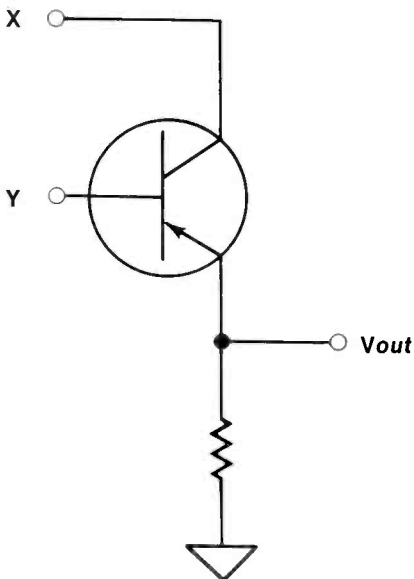
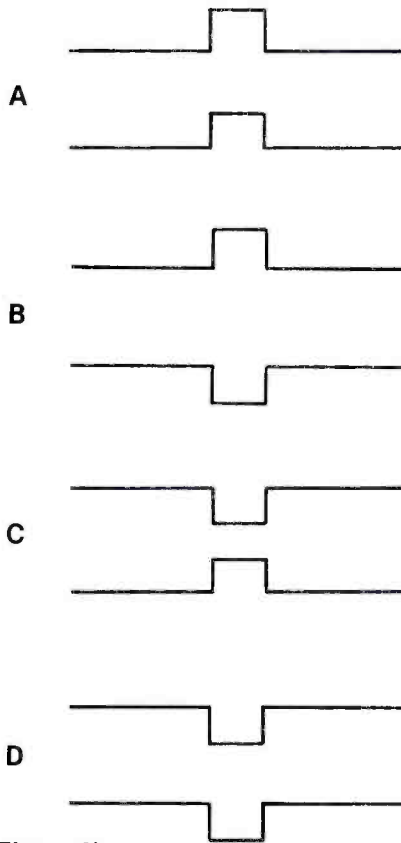

Figure 6a
Figure 6b
10. Figure 6a shows a coincidence circuit. Which of the combinations in Figure 6b will produce an output pulse?